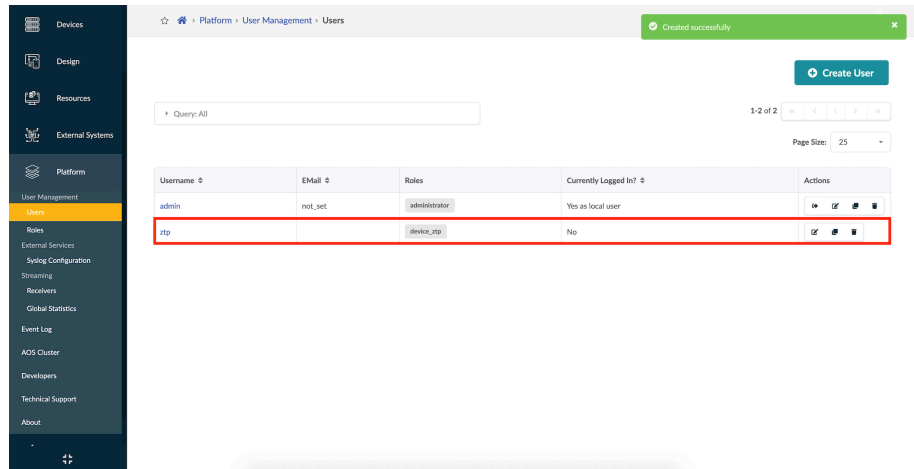

Figure 3.14 ZTP User Post Creation, Ready to Be Used for Onboarding
Step 5: See all users by going to Platform > Users as in Figure 3.14.